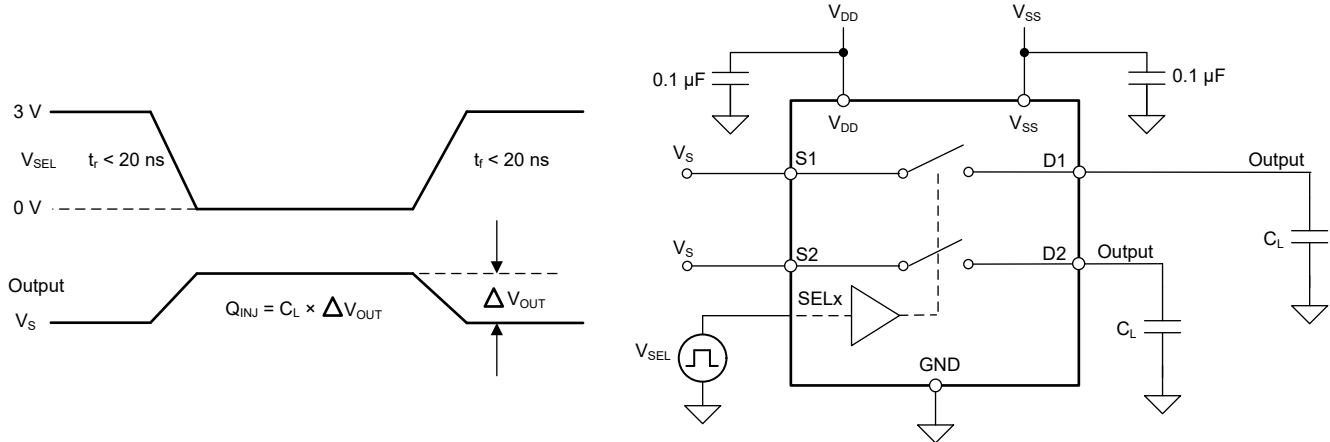

Figure 7-7. Charge-Injection Measurement Setup
The TMUX722x has a transmission-gate topology. Any mismatch in capacitance between the NMOS and PMOS transistors results in a charge injected into the drain or source during the falling or rising edge of the gate signal. The amount of charge injected into the source or drain of the device is known as charge injection, and is denoted by the symbol Q_C . Figure 7-7 shows the setup used to measure charge injection from source (Sx) to drain (D).